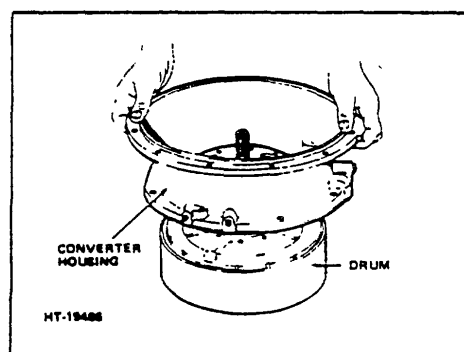

Figure 1-6. Removing Clutch Drum from Converter Housing.
- To remove the converter housing from the drum, remove the snap ring on the turbine shaft and slide housing from drum assembly. Bearing will remain in housing. (Figure 1-6.)